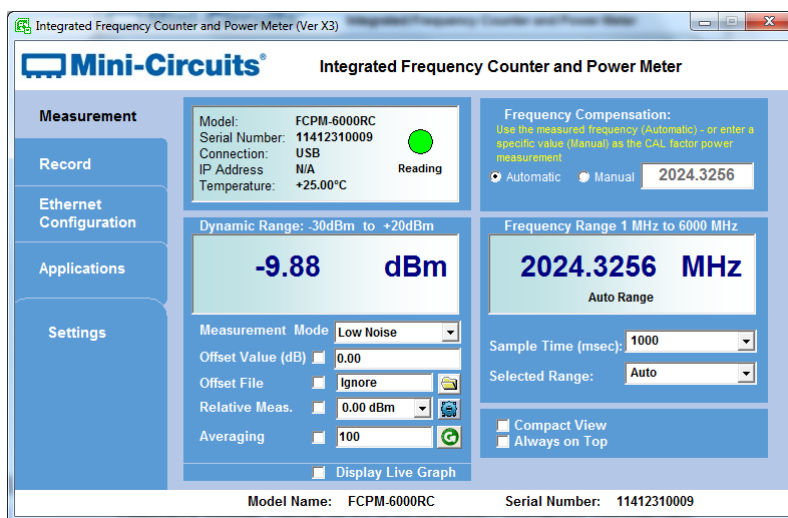

Figure 3.3: FCPM Measurements Screen
This screen provides a simple and easy-to-use interface for measuring CW signals RF power and frequency with the FCPM-6000RC (See **Fig 3.3**).
3.3.1 Model Status (Fig. 3.3)
3.3.2 Power Measurement (Fig. 3.3)
3.3.3 Frequency compensation (Fig. 3.3)
3.3.4 Frequency Measurement (Fig. 3.3)